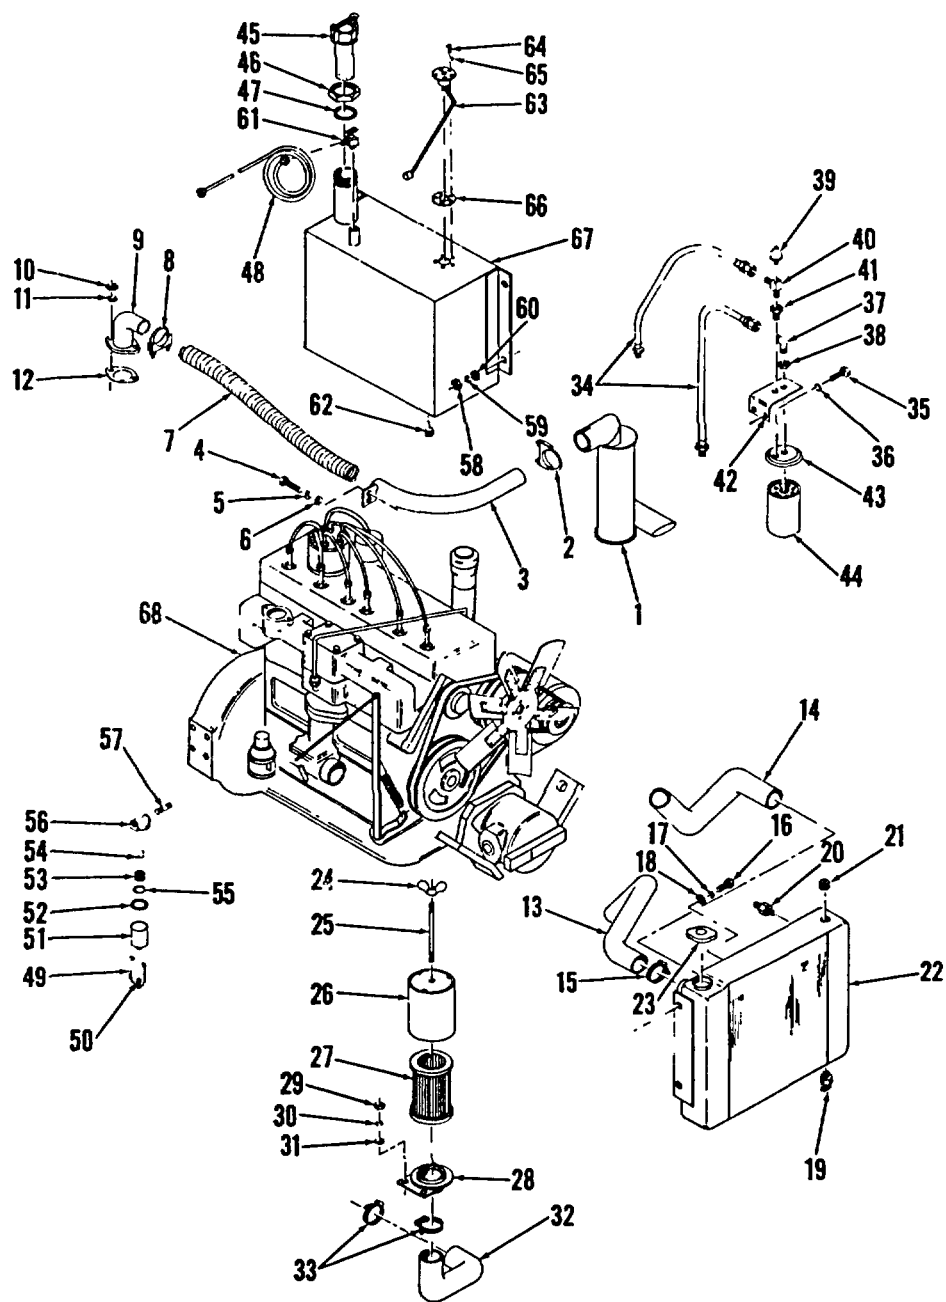

Figure 4-29. Fuel, Exhaust and Engine Coolant Systems, Exploded View
1. Remove clamp (8, figure 4-29) and flexible pipe (7) located between manifold elbow (9) and exhaust pipe (3).
2. Remove nut (10), washer (11), exhaust manifold elbow (9) and gasket (12) from exhaust manifold.
3. Remove screws (4), lockwasher (5), and flat washer (6) attaching the exhaust pipe (3) to truck frame.
4. Remove muffler (1) and pipe (3). Remove clamp (2) and tube from muffler.